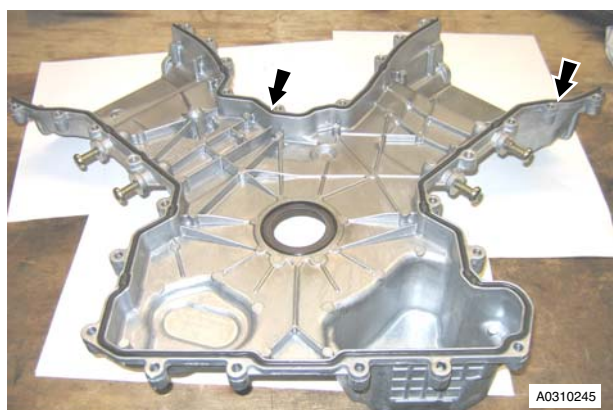

Figure 0
40. Remove the outer and inner rubber seals from the timing cover (refer to Figure 0).